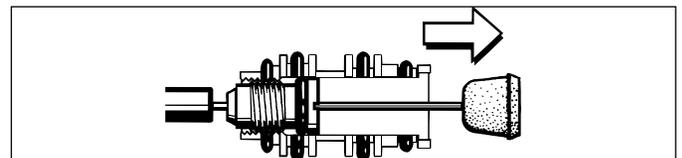

Figure 4
1.1.11 While holding the crown housing secure, insert the pin of the seat/seal extractor (P/N 5116236) through the open center of the crown inside the housing, and press out the filter(2). (See Fig. 4.) Remove all four external O-rings(5&6), including one which may have remained inside the poppet housing. Discard these with the filter, and do not attempt to reuse.